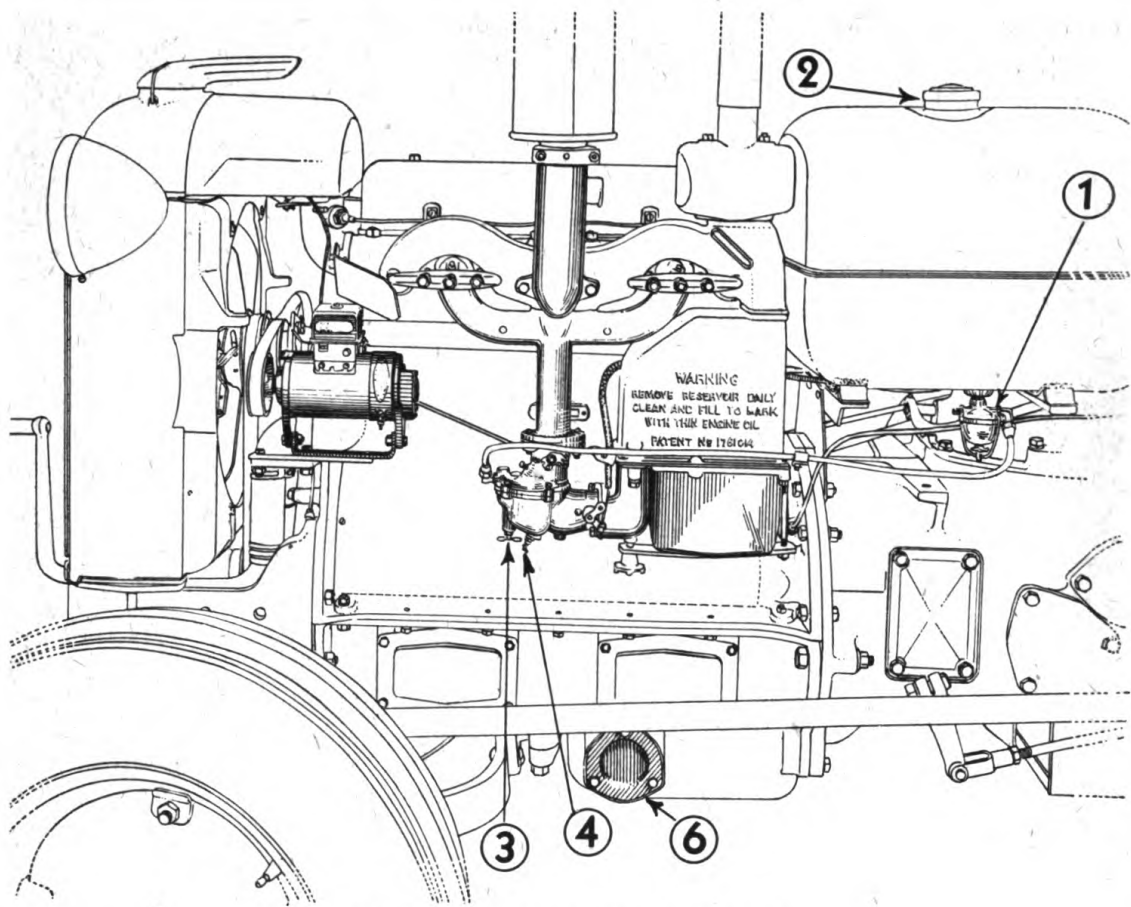

Fig. 1. Left Hand Side of Engine
8. Shut off the valve 1, Fig. 1 in the filter under the gas tank, and fill the fuel tank with gasoline (Capacity 19¼ gals.) adding one pint of light oil to each five gallons of fuel, while the tractor is new.
9. Make sure that air vent in cap of fuel tank 2, Fig. 1 is open.
10. Open the drain cock 3, Fig. 1 at bottom of the carburetor and turn on the gasoline. Allow enough gasoline to run through to clean out the fuel line and carburetor bowl, then close the drain cock.
- A. Turn the carburetor main jet needle valve 4, Fig. 1, $1\frac{1}{2}$ turns counter-clockwise from closed position.
F. Set throttle lever so that engine runs about half normal speed and adjust carburetor needle valve 4, Fig. 1 until engine runs "free" and snappy.